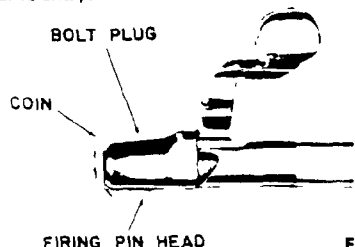

Fig. 4
**TO DISASSEMBLE BOLT PARTS** — Remove bolt. Pull firing pin head back until coin or similar piece can be inserted in slot near back edge of firing pin head (Fig. 4). Then hold bolt handle and turn bolt plug at rear until entire firing pin assembly can be unscrewed and removed from bolt assembly. Reassemble in reverse order.